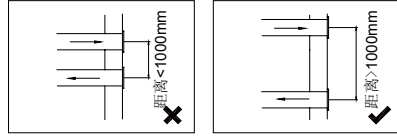

Figure 14 Distance between Air Openings
- (6) In order to prevent discharged air returning back, distance of two air openings at the wall should be kept larger than 1000mm, as shown in the figure 14.